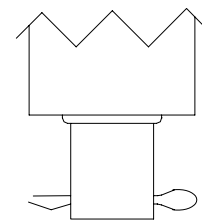

Fig. 3
7. Reinstall the cotter pin and bend in a manner that does not cause interference with the top of the gear that drives the pulser shaft (Fig. 3).